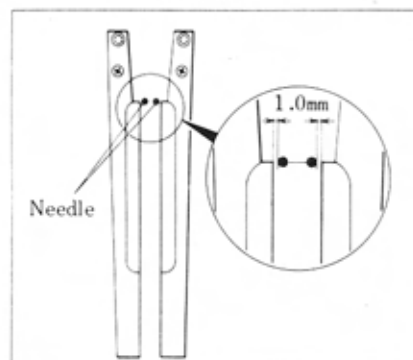

Figure 13
4. Brush Adjustments (Figures 13 and 14)
- Jog the carriage backward (using the incremental feed) until the brushes are next to the needles. Proper clearance should be approximately 1mm for the entire length of the blade (see Figure 13).